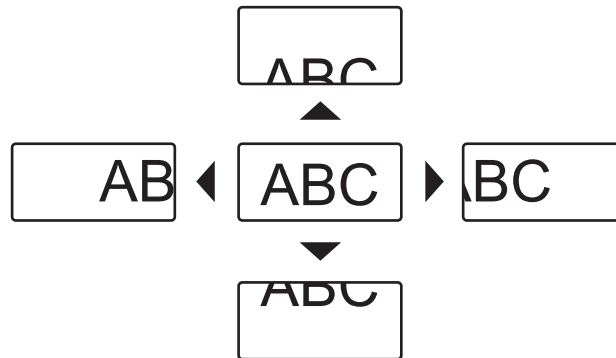

Fig. 1
5) Press ▲▼◀▶ to move the zoom position. (Fig. 1)